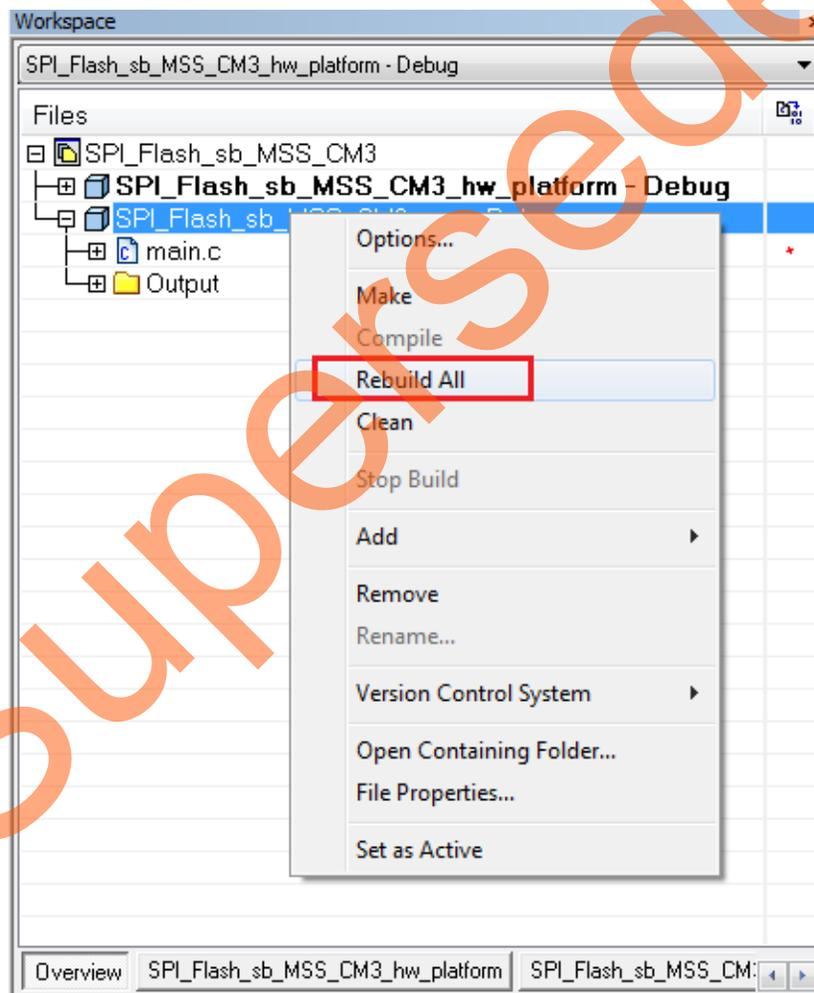

Figure 36 • IAR Workspace - Select Rebuild All
- Right-click **SPI_Flash_sb_MSS_CM3_app - Debug** project name and click **Rebuild All**, as shown in Figure 36.